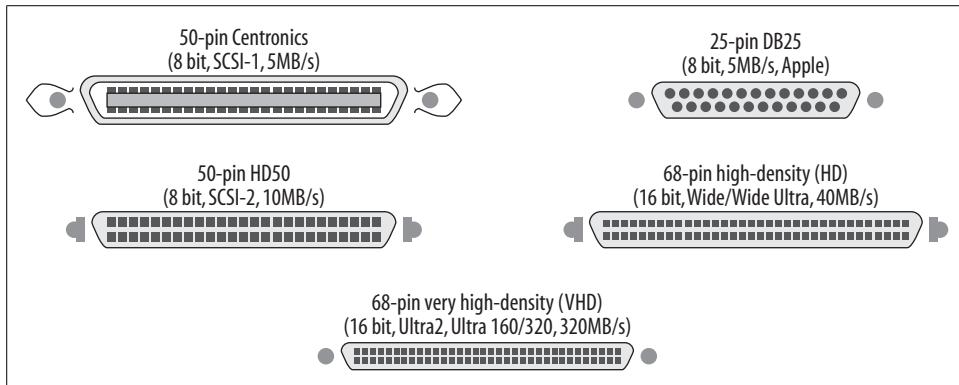

Figure 2-27. Most SCSI controllers use 68-pin high-density connectors for external connections. You may encounter some older connectors as well.
SCSI cables are much more confusing because SCSI cables have undergone more transformations than ATA cables. In most cases, you will be using a 68-pin ribbon cable for internal devices. Just make sure it's rated for the bandwidth you're using. Older external connectors have some variation (see Figure 2-27), but in most cases, 68-pin *high-density (HD)* connectors are used. However, newer 68-pin *very high-density (VHD)* connectors are making their way into the market. Decreasing the size of external connectors has made it easier for SCSI controller manufacturers to house multiple channels on a single card.